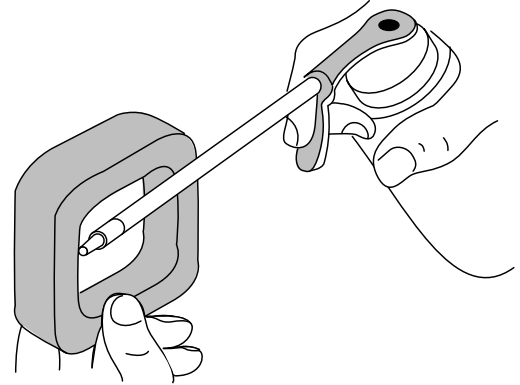

Fig. 34
4. Apply enough clean SAE 30 motor oil to lightly coat the filter (Fig. 34).